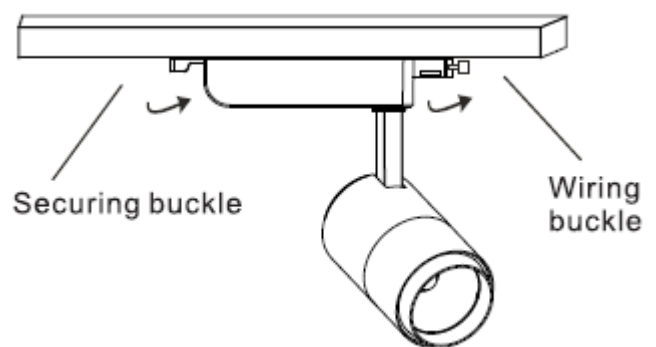

FIG. 7
- Secure the fitting into the track with the buckles (Fig. 7).